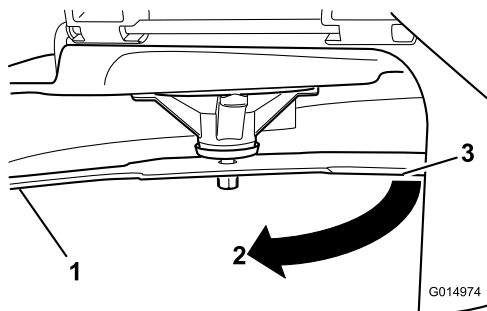

Figure 57
3. Second measured distance between blade and surface (B)
4. Rotate the same blade 180 degrees so that the opposing cutting edge is now in the same position (Figure 57).